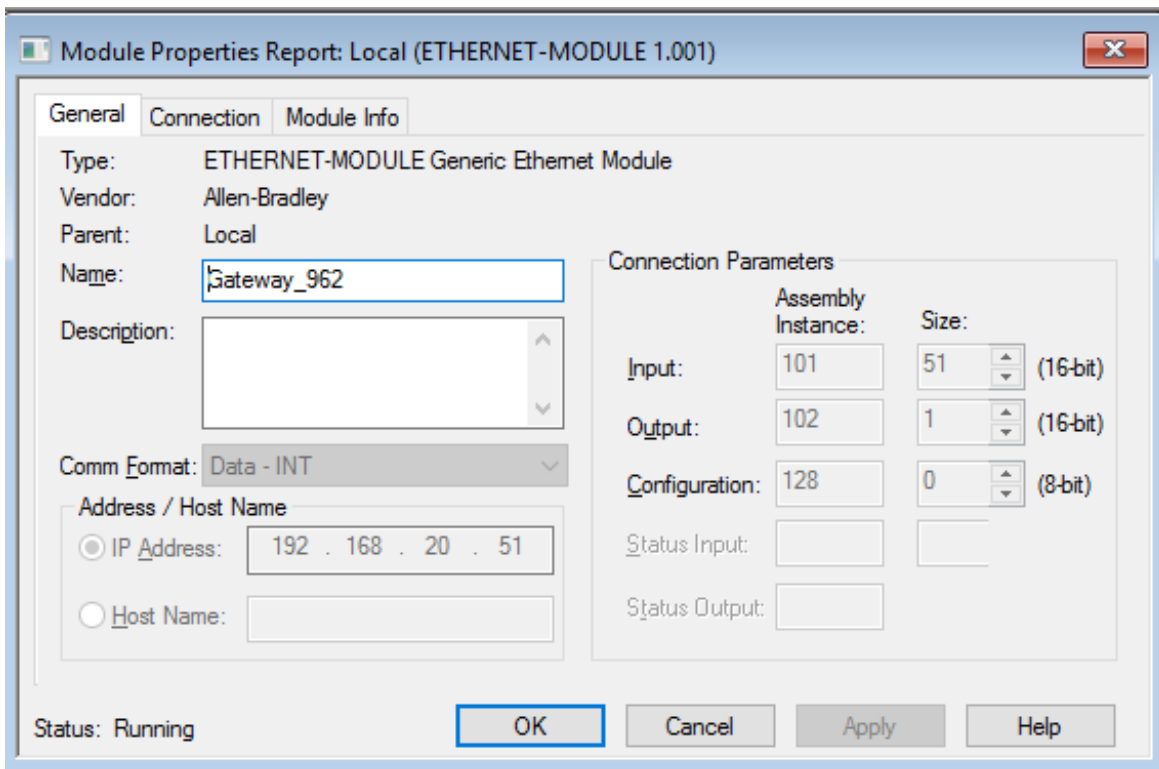

Figure 6 - Ethernet/IP Module configuration settings
- Below are the recommended contents of the data conversion routine. Tags can be named to suite the customer's needs and/or standardized naming conventions. The names listed below correlate with those on Rexnord's cloud. Note the "Gateway_962" will be replaced with whatever device name was entered above in Figure 6.